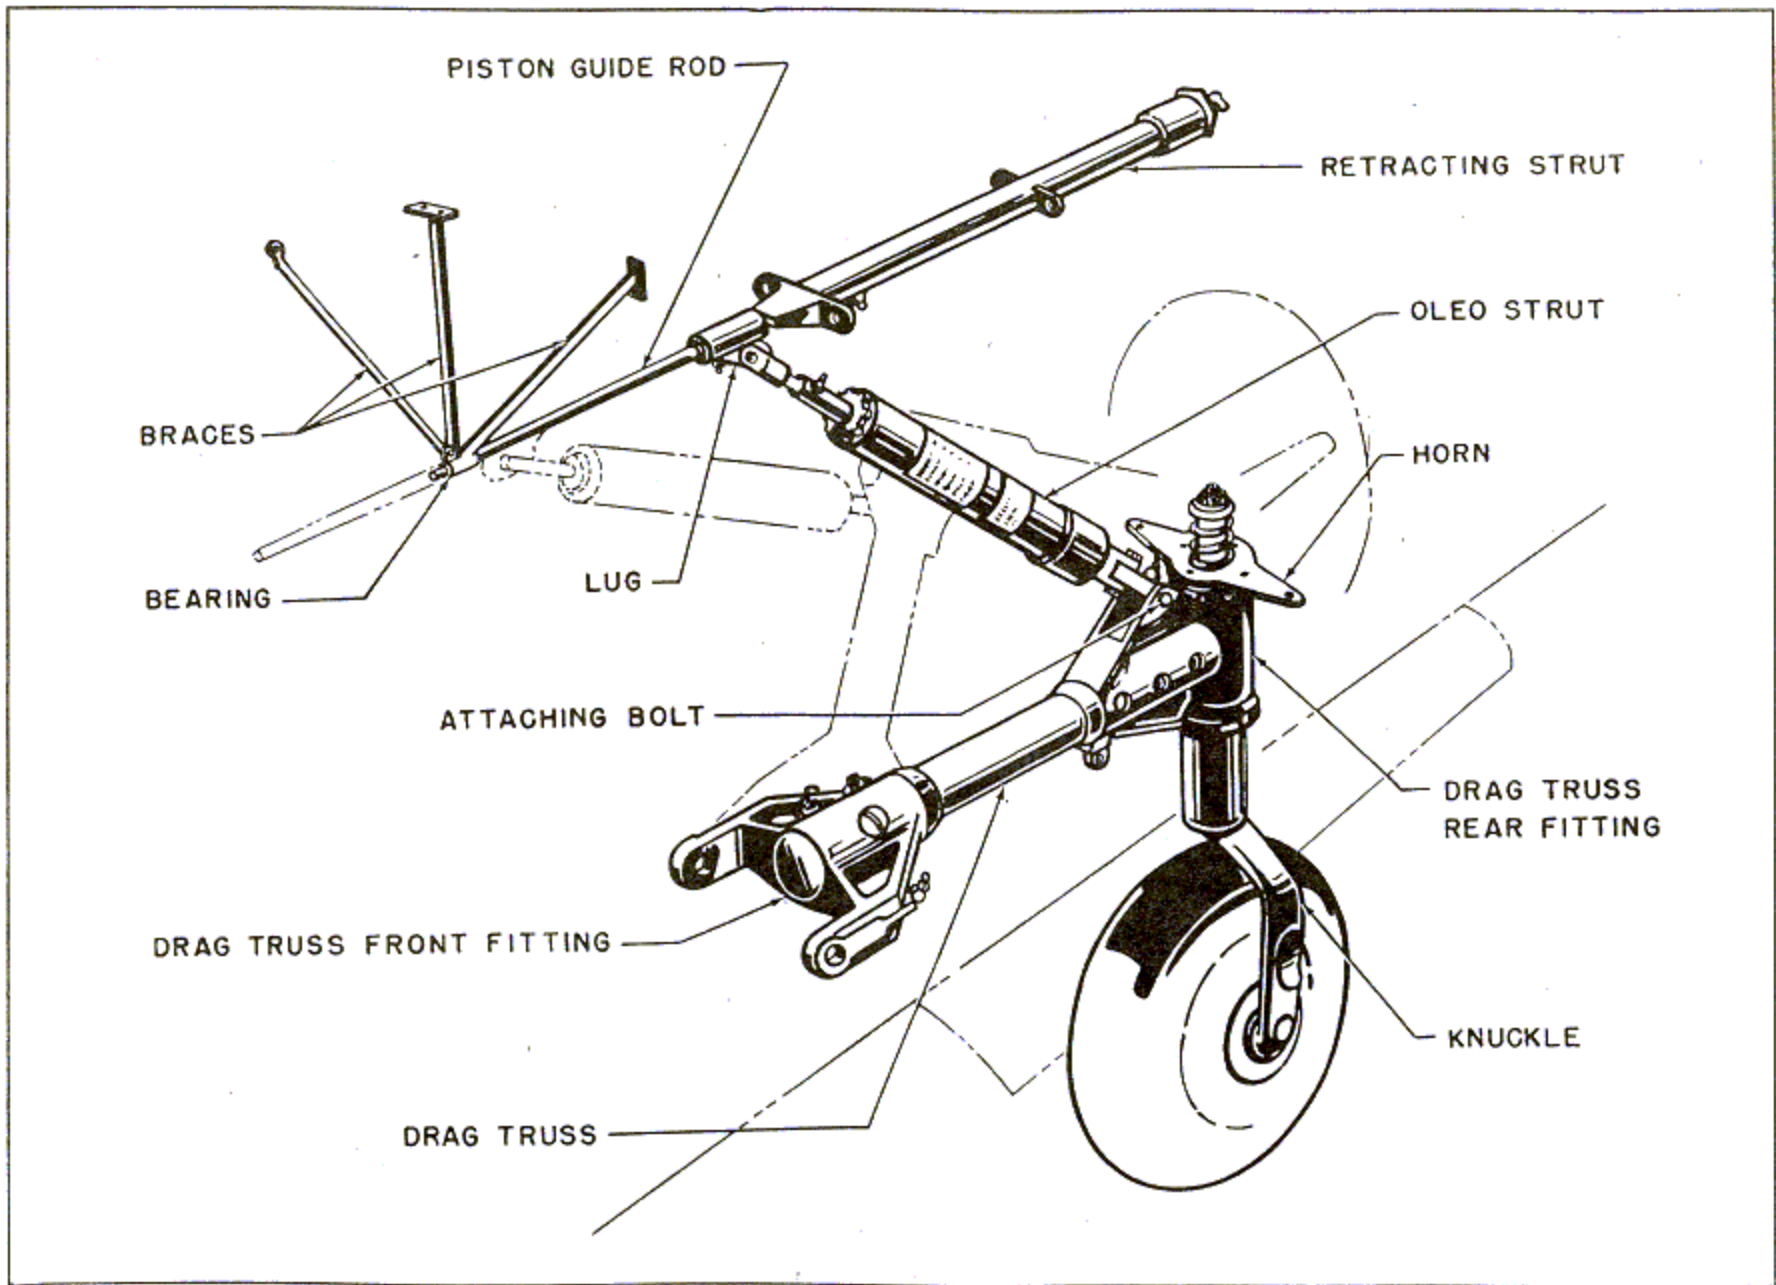

Figure 145—Tail Wheel Assembly
(1) GENERAL DESCRIPTION.—The tail wheel landing gear is of the hydraulically retractable type, comprising a pneumatic oleo shock absorbing strut, a standard steerable knuckle unit equipped with a Firestone CO-200 magnesium alloy wheel mounting a 12.50 inch six-ply rayon smooth contour tire statically grounded, and a 12.50 smooth contour tube. The wheel disengages its steering splines at 30 degrees \pm 2 degrees, and then castors through 360 degrees. The cables connecting the steering horn to the pedals are equipped with springs to reduce taxiing shocks in the pedals and the control system. When retracted, the tail wheel is enclosed by right and left hand doors, which form the under surface of the fuselage about the wheel. (See figure 145.)